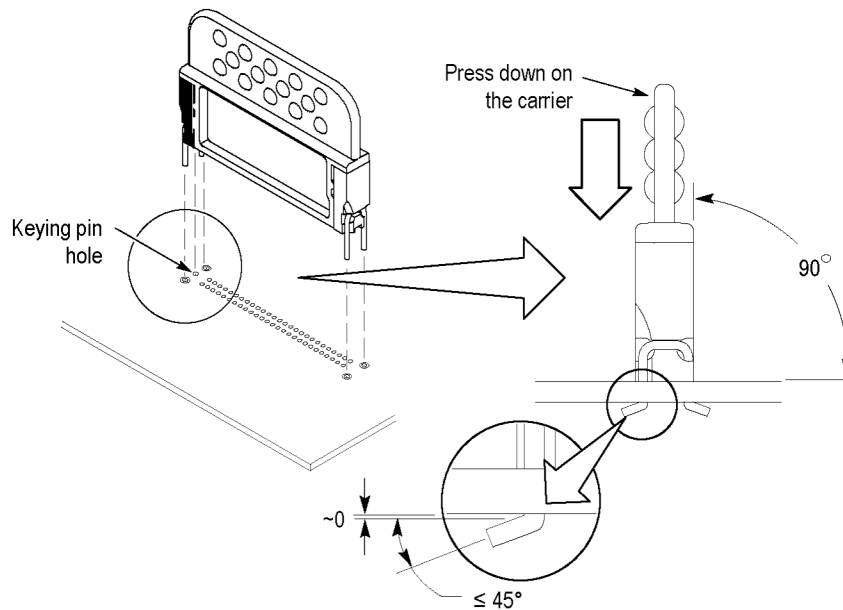

Figure 9: Installing the retention posts in the PCB
1. On the retention post/carrier assembly, locate the black retention post (the post with the keying pin) and align it to the keying pin hole on the PCB. (See Figure 9.)